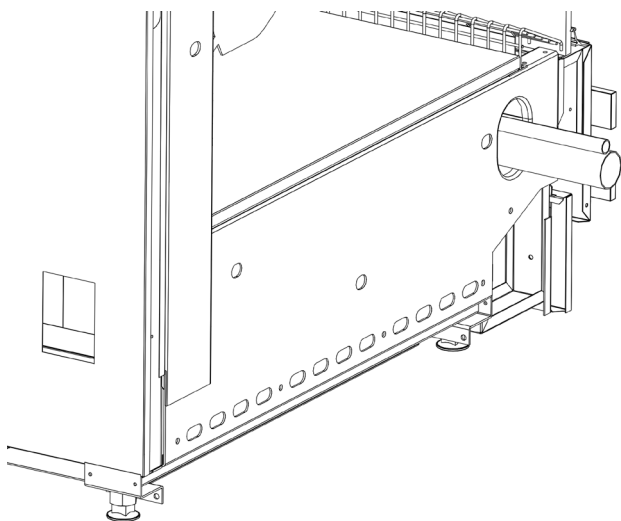

FIGURE 3AA
- * Run through to the top of the case. See figure 3AA: service layout for location of the refrigerant supply line.